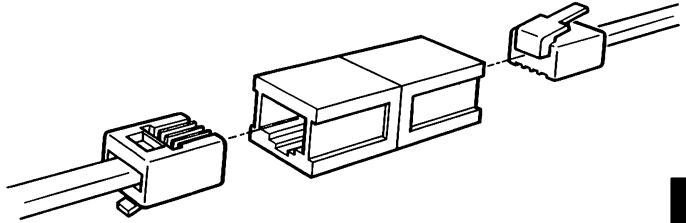

Figure 2-8. Connecting the cord to another DW8A-DE cord
- Determine whether the cord is long enough to connect your workstation to another workstation or an NEU. If it is not long enough, connect it to another DW8A-DE cord with a 451A Adapter. See Fig. 2-8.